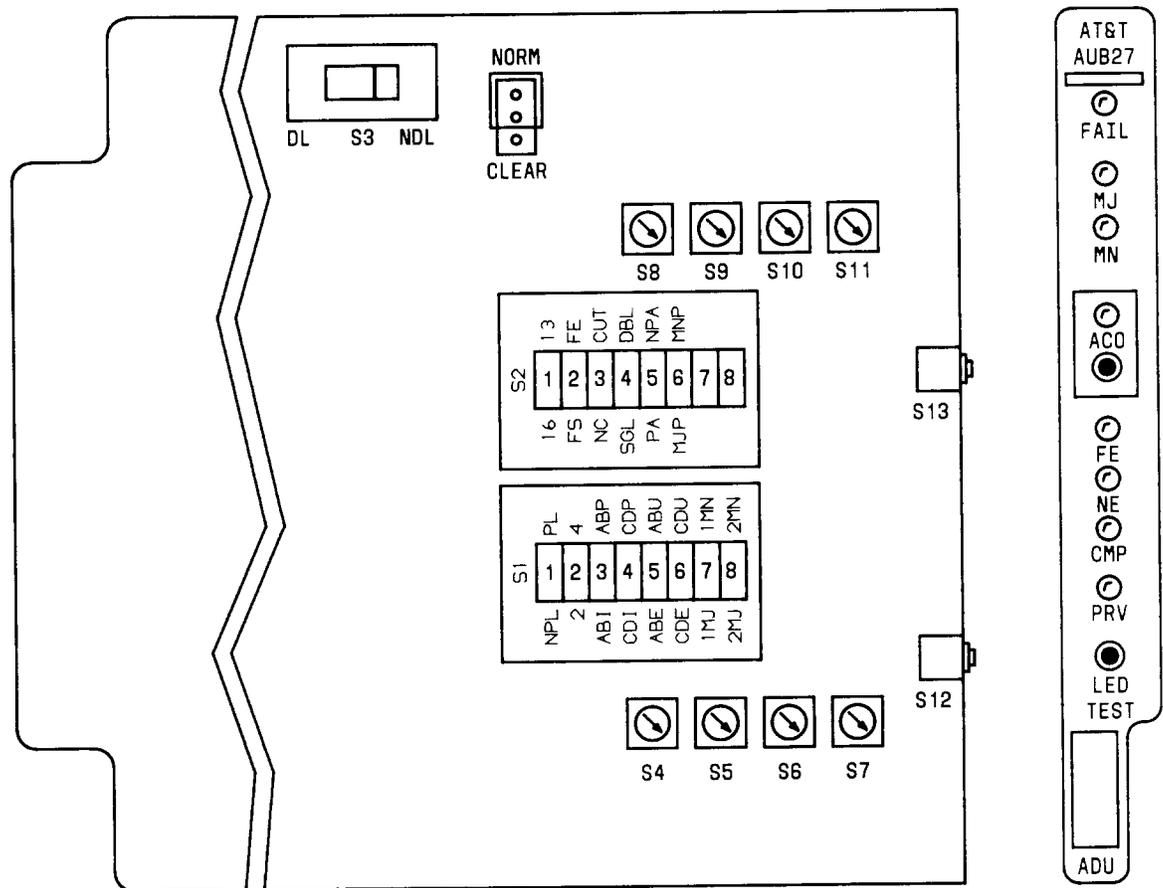

Figure 1 - AUB27 ADU (alarm display unit)
2.01 The new AUB27 ADU (Figure 1) is required for INA-RT operation. The backplane interface of this ADU resembles an RT unit but has provisioning memory similar to a COT unit. The AUB27 resembles the AUB26 in appearance and function. Differences between the AUB27 and the AUB26 include:
- The FS/FE switch selects the framing format used, F_s (FS) or ESF [F_e (extended super frame)].
2.04 Usage of the eight bank ID switches (S4 through S11) depends on the operating mode of the bank. In INA-RT Mode I, if the two sets of switches agree, then the bank is assumed to be a single 96 channel bank. If the two sets of switches disagree, then the bank is assumed to be two distinct 48 channel banks. In INA-RT Mode III, the system can only be a 48 channel system. For Mode III (48), only the lower set of switches (S4 through S7) is used to identify the bank [the upper set of switches (S8 through S11) is ignored]. For Mode III (96), the two sets of switches must be set to the same number. The bank identification number should be entered from left to right as shown in Figure 1 (refer to the engineering section).